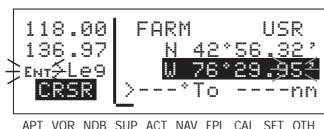

Figure 4-86
- Enter the longitude in the same manner as the latitude (figure 4-86).